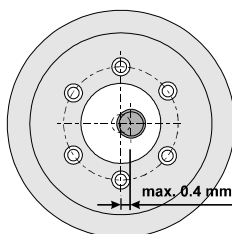

Fig. 5
- The eccentricity of the shaft against the fixing hole P.C.D. must not exceed 0.4 mm. (Fig. 5).
- The hub (1) and shaft fits are to be selected to avoid any distortion of the hub splines (1) (observe the max. jointing temperature of +200 °C). A widening of the splines causes a clamping of the rotor (4) on the hub impairing the brake function (recommended hub – shaft fit H7/k6).